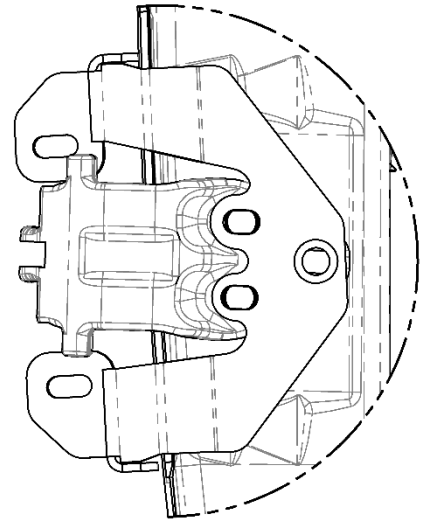

Figure 4: Lower Hinge Bracket Orientation
11. Rotate the hinge away from the door. Install the lower hinge bracket (350685) onto the hinge such that the bracket can wrap towards the outside of the door. Rotate the bracket and hinge back to the door. See Figure 4 for reference.